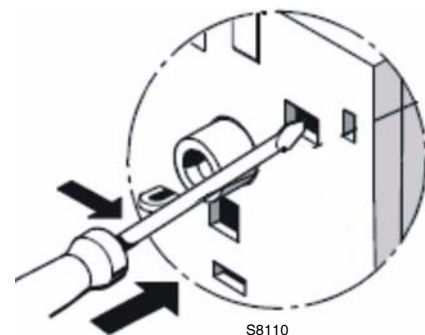

Fig. 39
- **Contact test NC (95-96) and NO (97-98)(Fig. 39)**